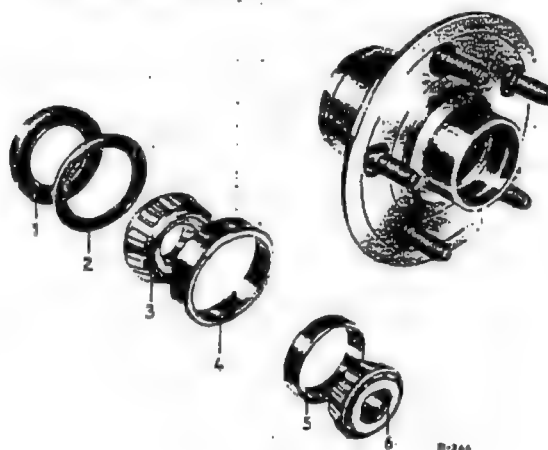

Fig. 33-5/3
5. Take the inner race with roller cage (6) of the outer annular taper roller bearing out of the hub (Fig. 33-5/3).